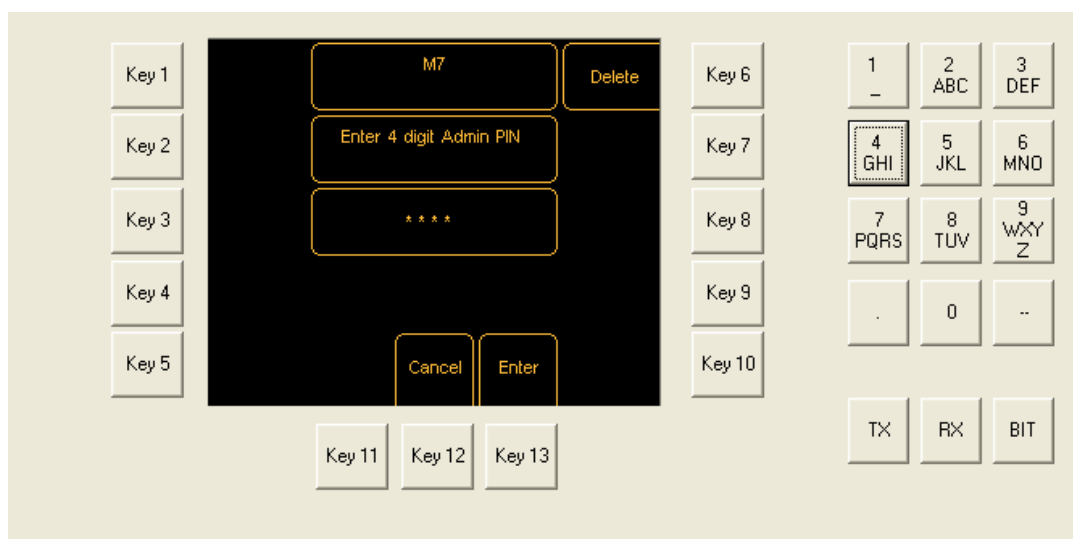

Fig 3-48 Enable Security Screen
- (3) Ensure the Enable Security screen (Fig 3-48) is displayed. Using the keypad, key in a 4 digit Administrator PIN number, then press **Key 13 – Enter**.